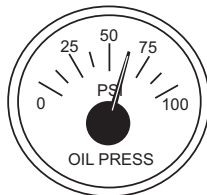

Figure 47. Oil Pressure Gauge
7. The **engine oil pressure gauge** (Figure 47) will indicate the oil pressure of the engine. Under normal operating conditions the oil pressure should be between 35 and 65 psi (193–586 kPa).